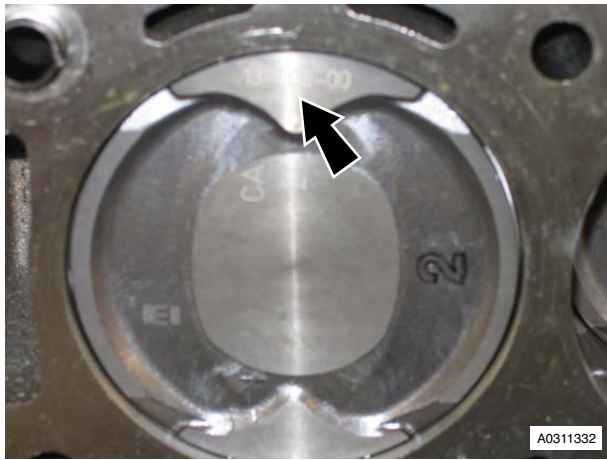

Figure 16
34. Note that piston grade number on crown and thick flange on connecting rod faces to front of engine on LH bank (B) (see Figure 16).